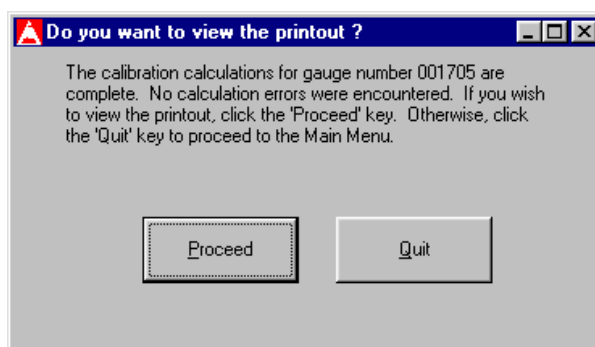

Figure 5–12. View Calibration Constants Printout Query
26. If an error was encountered in the calculations, the program displays an error message and enables the user to go back and edit the input data. Otherwise, the message box shown in Figure 5–12 is displayed. Click the **(Proceed)** button.